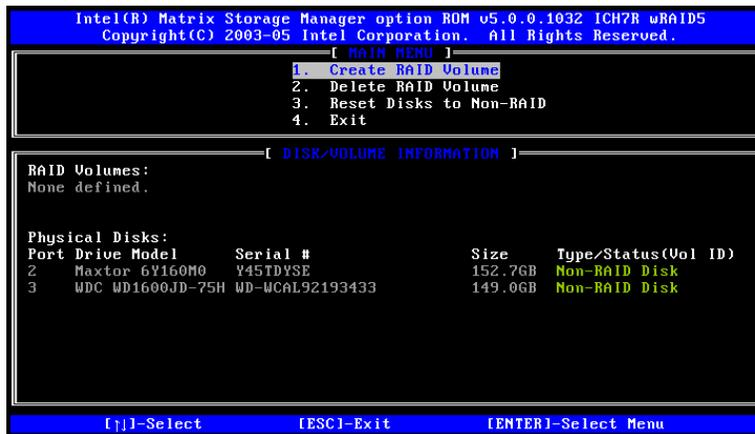

Figure F-1: Matrix Storage Manager Main Menu
- Step 1: Select “Create RAID Volume.”** Use the arrow keys to highlight **Create RAID Volume** and press **ENTER**. See **Figure F-1**.